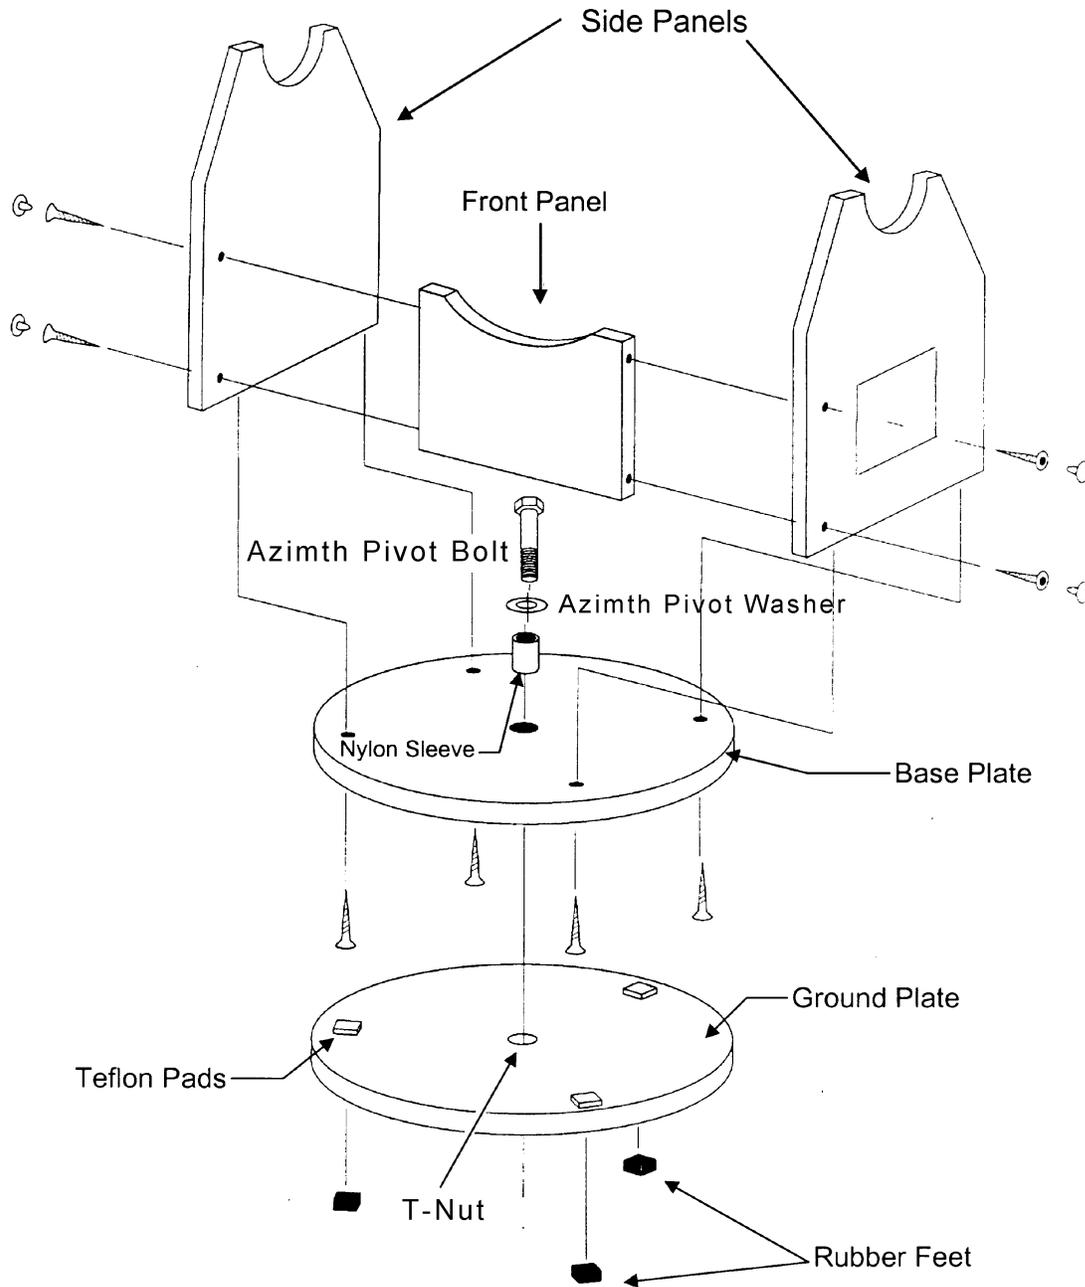

Figure 1
1. Locate the front panel and the two side panels of the base (refer to Figure 1 to identify all the parts referred to in these instructions).